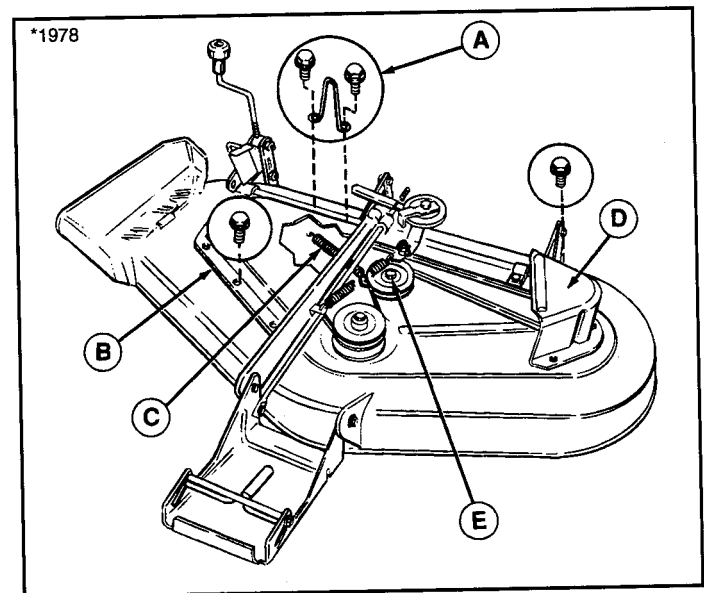

Figure 39. Mower Deck
4. Loosen nut and lockwasher securing bracket belt stop (C, Figure 39) on idler pulley. Remove the three capscrews securing the left-hand arbor cover (D, Figure 39).
3. Remove the two capscrews securing upstop (A, Figure 39) and remove the upstop.
4. Remove four additional capscrews securing right-hand arbor cover (B, Figure 39). Remove three capscrews securing left-hand arbor cover (D, Figure 39).
5. Using a vise-grip or pliers, remove idler pulley spring (C, Figure 39) from slot in deck.
6. Loosen capscrew (E, Figure 39) securing idler pulley to bracket. Belt can be slipped between pulley and idler bracket hub.
8. Install spring (C, Figure 39) to slot in mower deck. Tighten capscrew securing idler pulley.